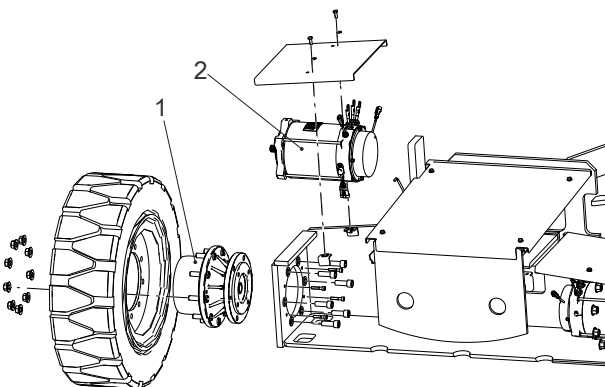

Figure 6-11
3. Place the fork of a forklift under the battery box (as indicated by the arrow in the figure Fig 6-11 , page 6-10) to be removed to support it.